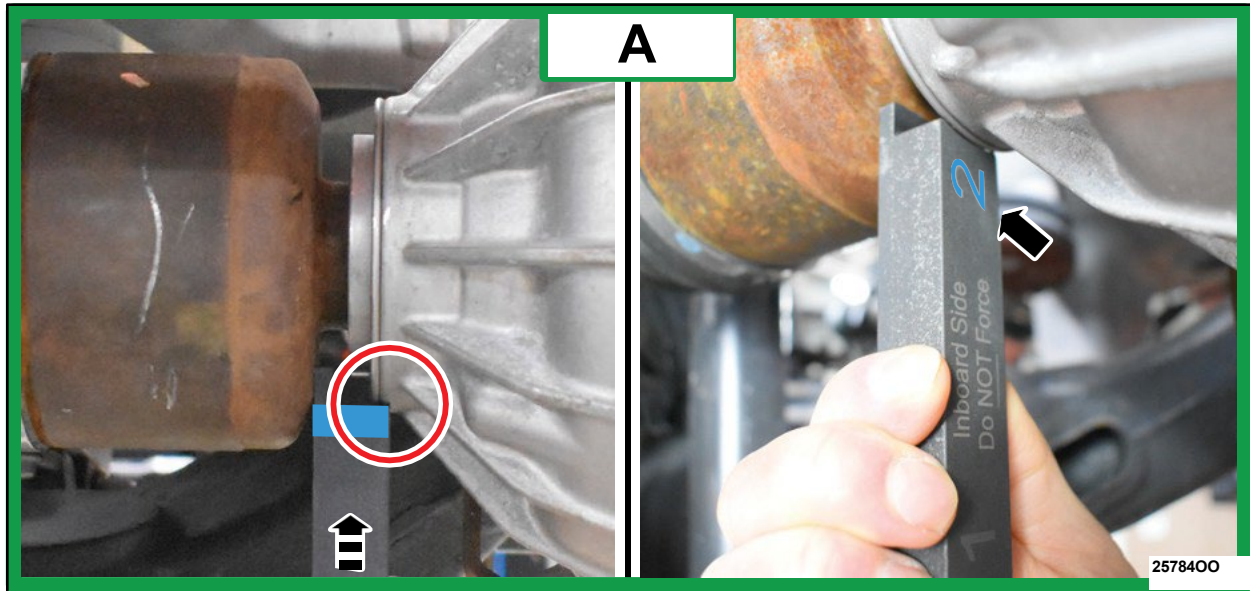

FIGURE 4
5. Without forcing, does gauge **Side 2** fit in the gap as shown in Figures 4 and 5?